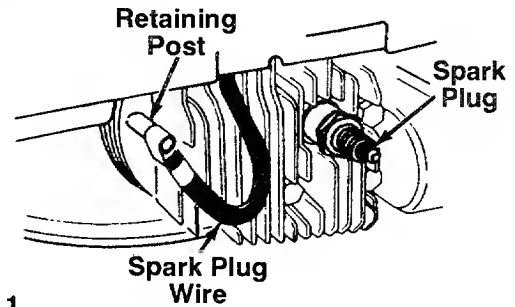

FIGURE 1.
- Disconnect the spark plug wire from the spark plug. Ground the spark plug wire by attaching it to the retaining post until ready to operate your mower. See figures 1 and 2. (Spark plug wire is shown in figure 1 without the rubber boot for clarity.)